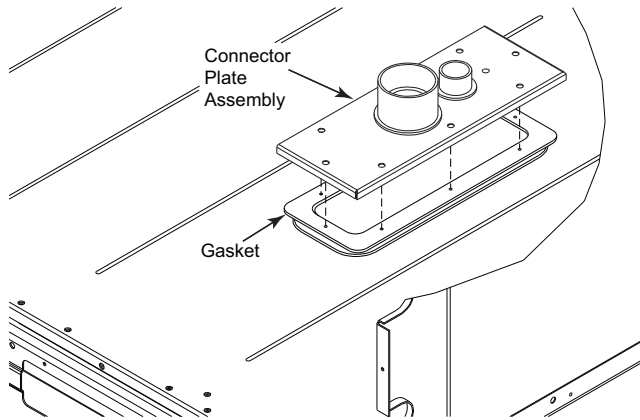

Fig. 30 — Completing Installation of Thru-the-Base Option
- Place the gasket over the embossed area in the basepan, aligning the holes in the gasket to the holes in the basepan. See Fig. 30.